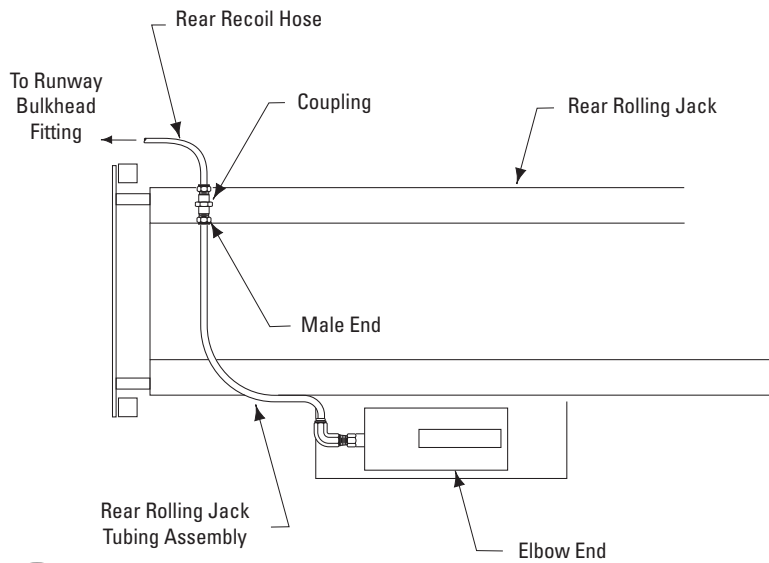

Fig. 39
- C. Connect one end of provided rear recoil hose to bulkhead T-fitting at midpoint of runway. Connect other end of recoil hose to coupling welded on rolling jack, Fig. 39 and 41.
- D. Connect elbow end of rolling jack tubing assembly to air pump and male end to the coupling, Fig. 39 and 41.